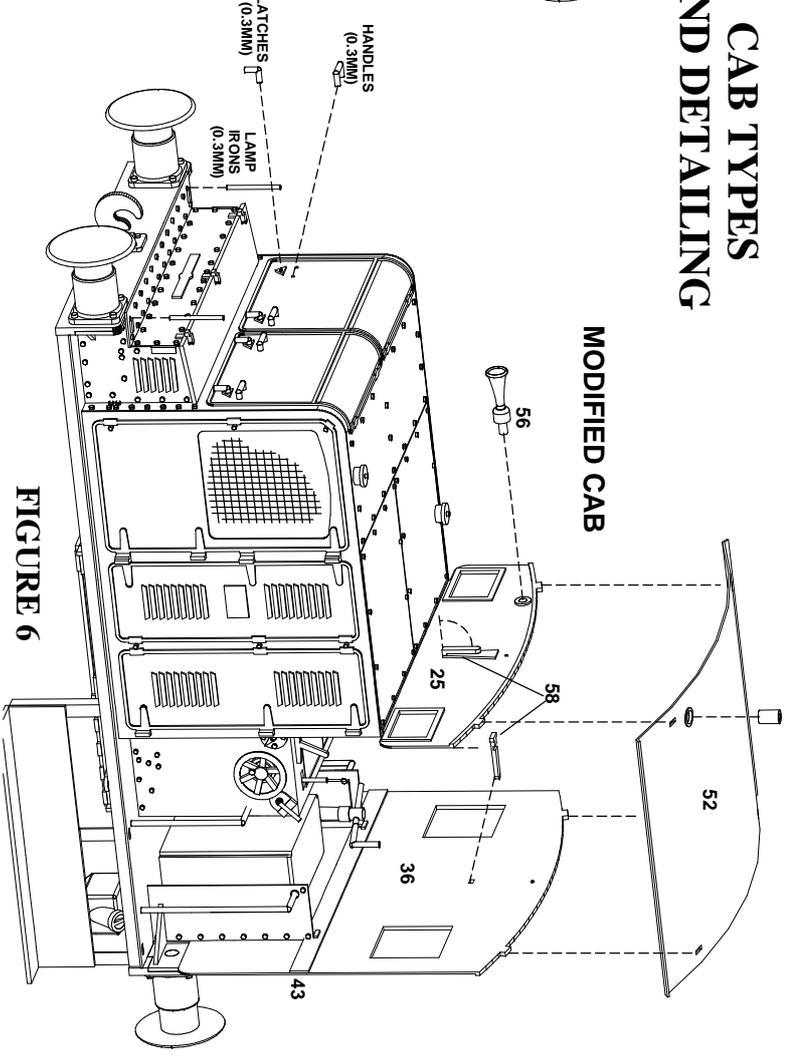

FIG. 12
Fold the side lugs on the Motor Mount (66) through 90 degrees, but do not add any solder to the bends. Go on to fold the gear spacers (R – see Figs. 12 & 13) and strengthen these bends with solder. Slide lengths of gearshaft through the locations in both the frames and spacers as you locate the mount on the frames, and then solder the whole assembly in place using the lugs on the outside of the triangular gearbox.
Now is a good time to trial-fit the gears (including the axle and final jackshaft gears) as shown in Figures 12, 13 and 14. You can check they rotate freely and make adjustments without things getting in the way. Power is transmitted via the rear axle, with the gear-driven jackshaft being purely cosmetic and not physically connected to the siderods.